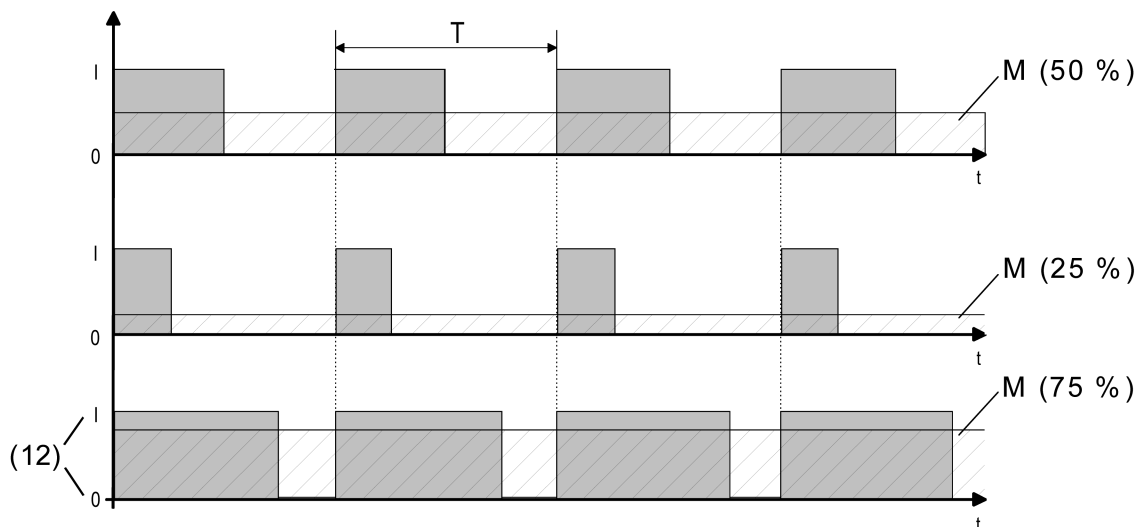

Figure 19: Pulse width modulation of a valve output signal
As soon as that device should set a constant command value or a valve setpoint position value configured in the ETS, it modulates the output signal using the switch-on pulse width. Taking the cycle time (T) settable in the device into account, the average output signal (M) resulting from this modulation is a measure of the centred valve position of the control valve and thus a reference for the set room temperature (Figure 19).